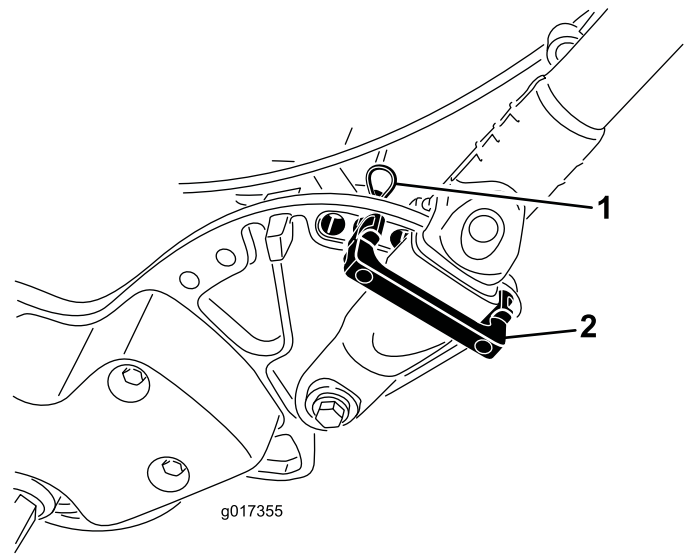

Figure 9
2. Pivot the handle to the desired operating position, insert a handle retainer over the handle clamp and into the matching holes in the side plate (Figure 9).
3. Secure the clamp in position with a hair pin cotter (Figure 9).
1. While supporting the handle, remove the cable ties securing the handle clamps to the side plates (Figure 9).